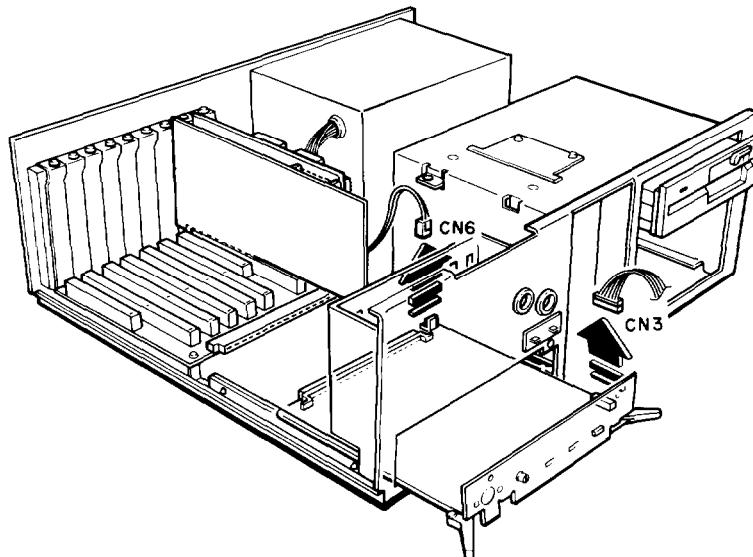

Figure A-8. Unplugging connectors CN6 and CN3 from the circuit board
5. Locate the connector marked CN6 at the back right corner of the circuit board. Squeeze the tab slightly and unplug it from the circuit board, as shown in Figure A-8.
6. Pull the circuit board out two inches more. Locate the connector marked CN3 on the front right corner of the circuit board (see Figure A-8 above) and carefully unplug it.